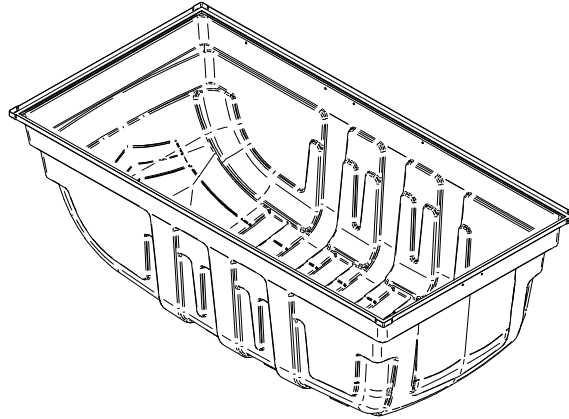

Figure 1
1. Start the installation by placing the plastic cover upside down on the floor. Use a blanket or cardboard under the cover to avoid dents and scratches! **See figure 1.**